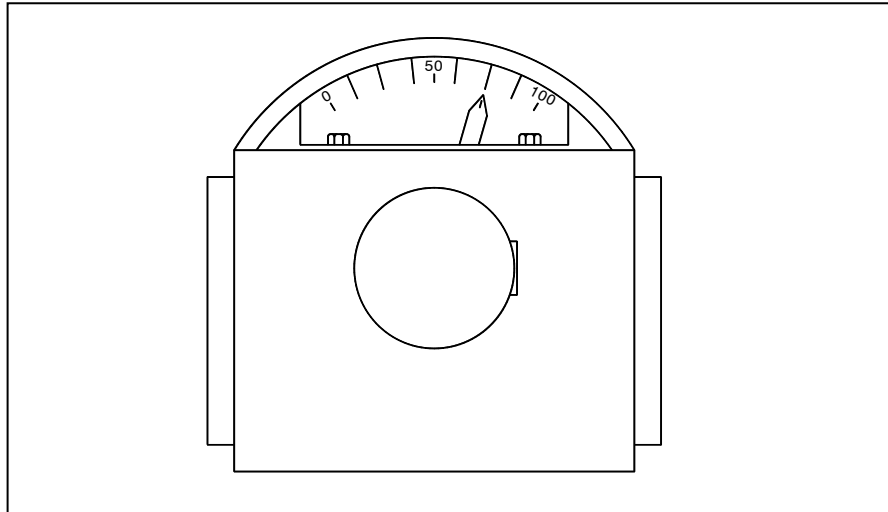

Figure 4.6b
3. The stored energy is most likely in two areas: (1) the torque control spring which is located in the worm drive housing and (2) the elastic deformation of the rake arms and rake cage, which is caused by the torsional load.
- a. CHECK the drive control. If the arrow indicates any torque above zero "0" as in Figure 4.6b, the drive assembly has stored energy. That is dangerous and must be relieved as covered below.
- b. The right-hand drive control is shown in Figure 4.6b. It shows dangerous stored energy in the amount of 70%.